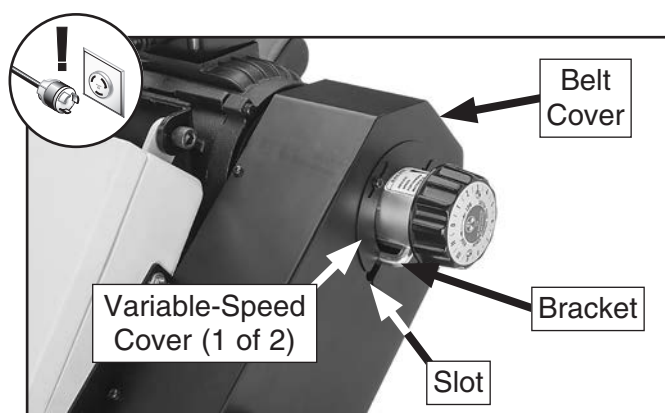

Figure 74. Location of belt cover and variable-speed covers.
2. Remove variable-speed covers and belt cover shown in **Figure 74**.
6. Re-install belt cover so bracket aligns with slot (see **Figure 74**), then re-install variable-speed covers.
3. Loosen cap screws and hex nuts on lower motor pivot bracket shown in **Figure 74**, to remove belt tension.